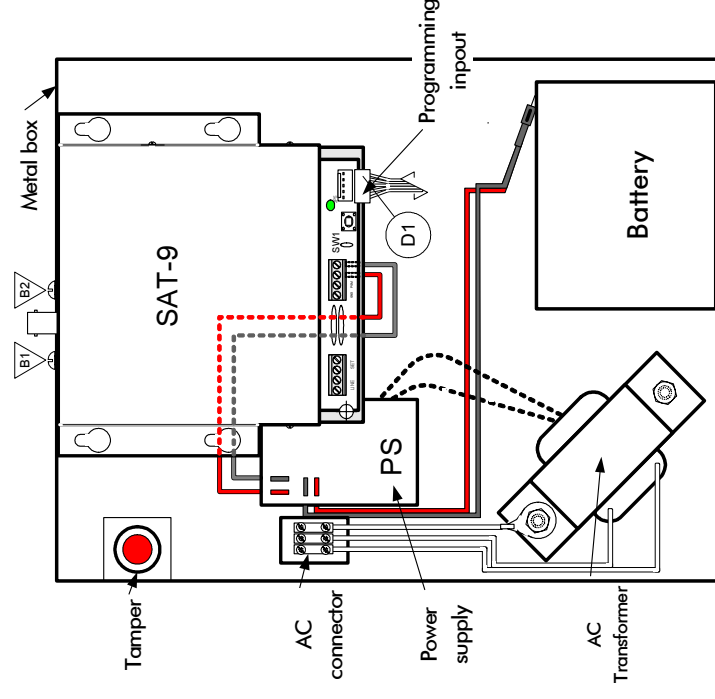

Figure 4 - TD-900
- 1 Open the TD-900 box and locate the SAT-9 (see Figure 4)
- 4 Remove the two screws (B1 & B2) holding the SAT-9 in the box and gently remove the SAT-9 (see Figure 4)